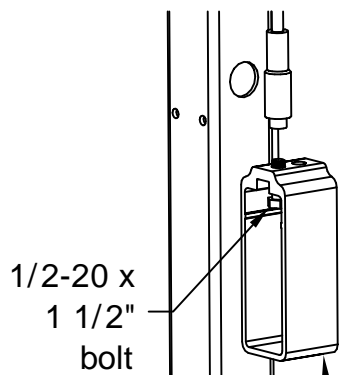

Fig. 5A
- ❑ Attach the cradle lift clamp to the lifting cable using a 1/2-20 x 1 1/2" bolt (fine thread). Make sure the bolt is seated in the slot of the clamp and screw onto lifting cable end. See Fig. 5A.